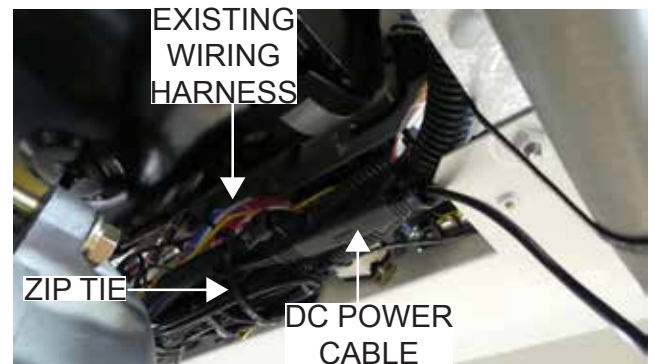

Figure 9. Zip Tie Cable Routing
- Route the other end of the DC power cable (Figure 9) back to the battery tender charger.
- Using zip ties (Figure 9), fasten the DC power cable to the existing wiring harness.